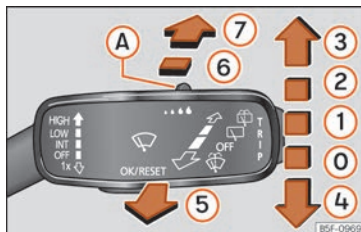

Fig. 108 Operating the windscreen wiper and rear wiper.
| 1 | INT | Wiper intervals. Use control Fig. 108 (A) to set the interval (vehicles without rain sensor), or the sensitivity of the rain sensor. |
| 2 | LOW | Slow sweep adjustable by using control Fig. 108 (A). |
| 3 | HIGH | Fast sweep adjustable by using control Fig. 108 (A). |